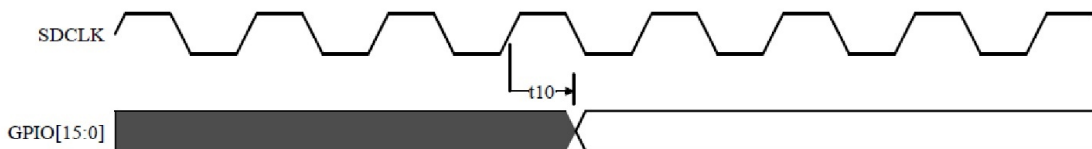

Figure 4:4: General Purpose I/O Timing Diagram
- 1) All outputs are measured using the load conditions shown in Figure 4:12